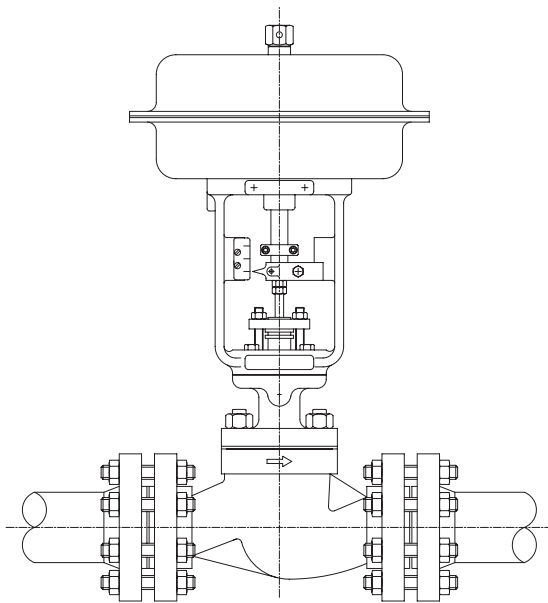

Fig. 1 - Valve installation
4.6 During the installation the actuator must be positioned on the valve and in vertical position (figure 1). If possible, look for a position closer the vertical one. The horizontal position should be avoided and, in some cases, there should be a support to the actuator.